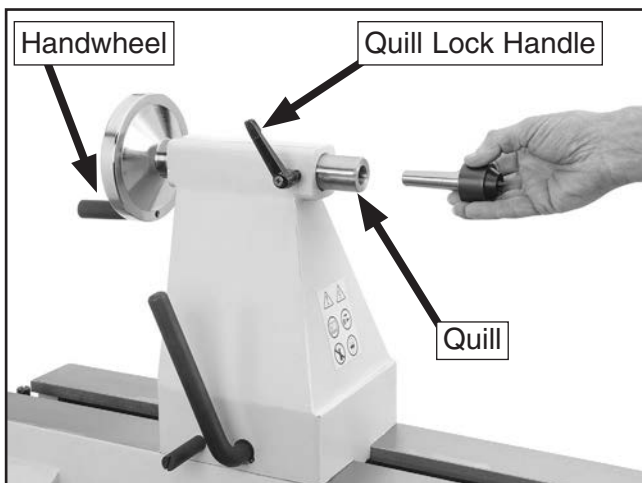

Figure 21. Installing center into tailstock quill.
1. Loosen quill lock handle, and rotate handwheel until quill extends about 1", as shown in **Figure 21**.
3. Firmly insert tapered end of center into tailstock quill, as shown in **Figure 21**.